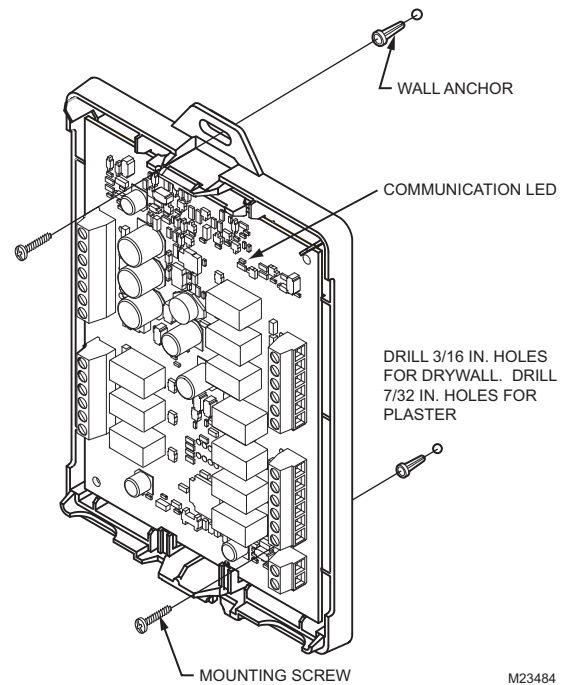

Fig. 8. Mounting EIM.
5. Insert the mounting screws into the holes and tighten. See Fig. 8.
The EIM has an LED (see Fig. 8) that communicates the EIM status as follows.